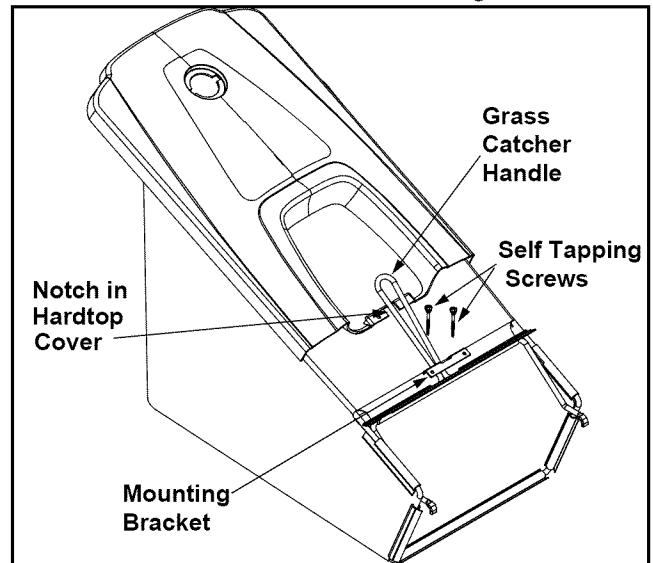

Figure 6
- Slide the hardtop cover under the grass catcher handle, positioning it so the handle rests snugly into the notch in the cover, and press the frame into the tabs at the back of the cover. See Figure 6.